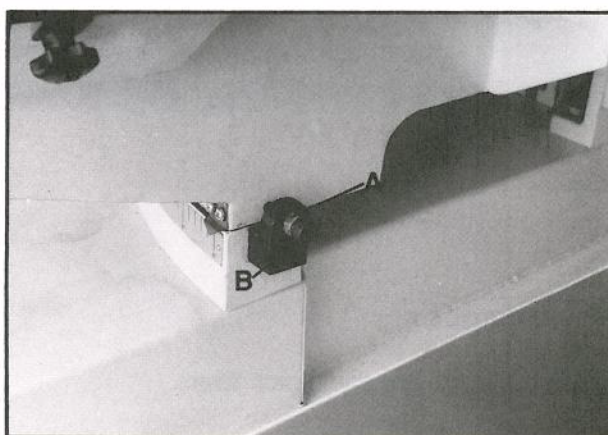

Fig. 13
5. Loosen the lock nut (A, Fig. 13).
6. Adjust the hex cap screw (B, Fig. 13) until the blade is at a 90° angle to the fixed vise jaw.
7. Tighten the lock nut (A, Fig. 13)